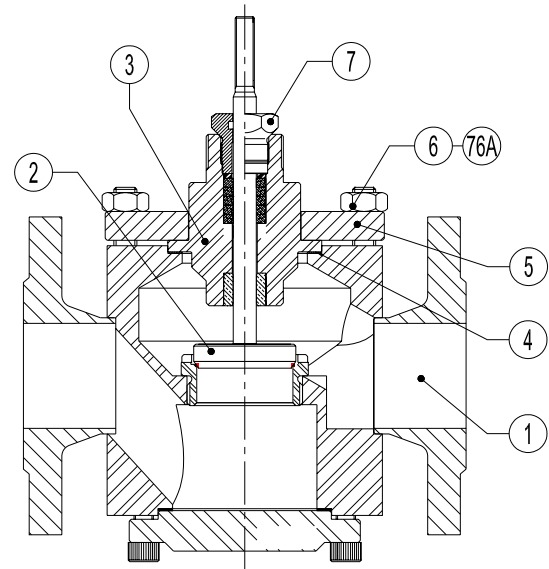

Fig. 5
Separate the actuator from the valve body as described before. In reference to fig.5 proceed as follow:
- Screw off the threaded bushing (3).
- Replace the body gasket (4) (see fig. 5) after cleaning its housing face carefully.